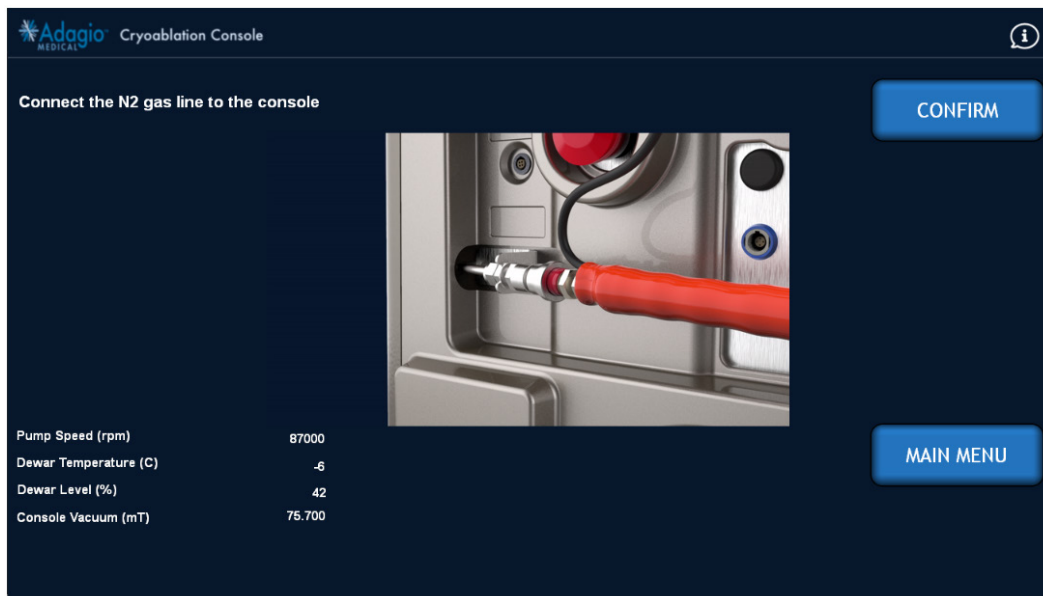
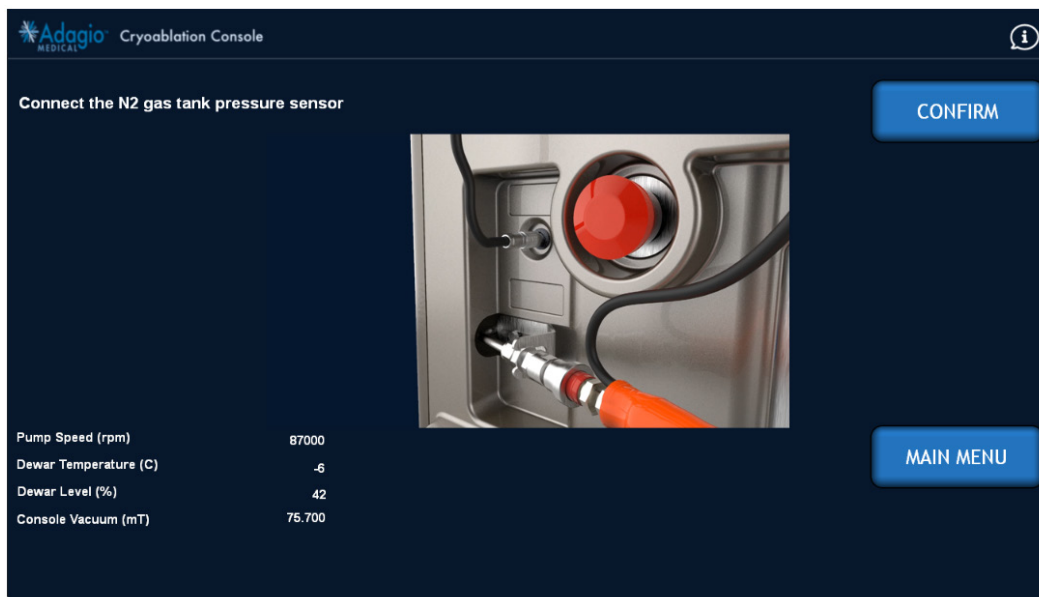

Figure 69 – Connect N2 Gas Line To The Console Screen Image
Figure 70 – Connect N2 Gas Tank Pressure Sensor Screen Image
2. **Connect the N2 Gas Line to the back of the Console.** As shown in Figure 69 and on-screen animation, connect the pressurized N2 Gas Supply hose to the Console by connecting to the quick-connect port on the back of the Console. Also, connect the Tank Pressure transducer connector into the receptacle (Figure 69 and Figure 70). Select “CONFIRM” upon completion.
3. **Connect the N2 gas tank pressure sensor to the Console** (Figure 70) and select “CONFIRM” upon completion. Do not force connect. Be sure pins and holes are aligned before pushing in to connect.